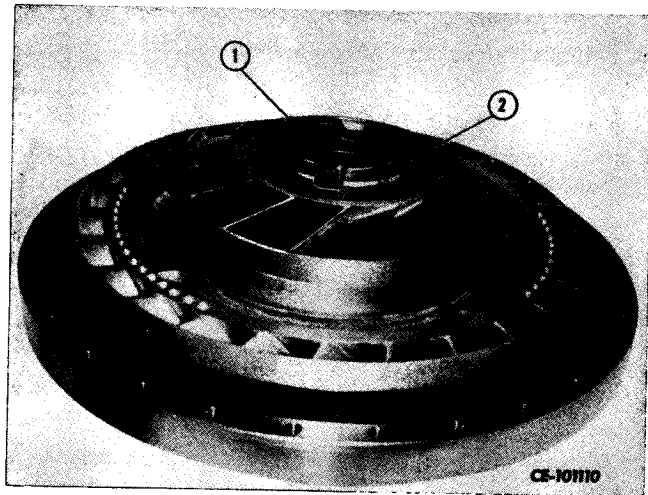

Figure 3-59
Install converter spacer (1, Fig. 3-59) on stator. When installing impeller be sure to align small slot (2) in spacer with pin in impeller.